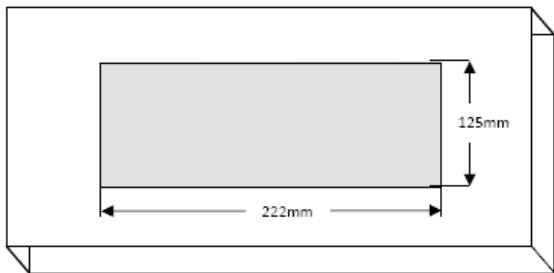

Fig. 1
- Cut a suitable hole in the ceiling as per the cut-out details (see Fig. 1) ensuring not to infringe with any joists, gas/water pipes or electrical cables (if installing in a suspended ceiling tile, it is recommended that the ceiling tile should be reinforced for strength)